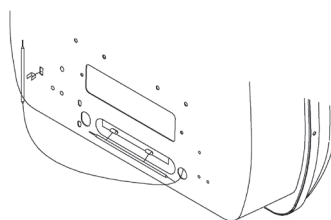

Figure 5 - Moving Thermostat Sensing Bulb
2. Take out the bulb clip from the hardware package and insert it into the square hole. Then insert the sensing bulb into the bulb clip (see Figure 5).